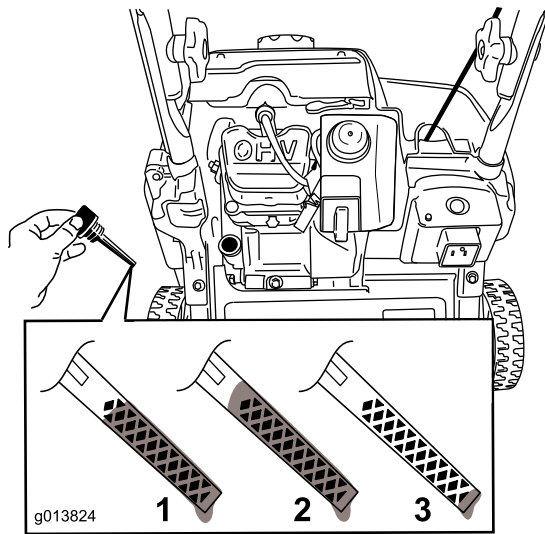

Figure 13
8. To determine the proper oil level on the dipstick, refer to Figure 13.
**Note:** Fill the engine crankcase with oil until the dipstick indicates that the engine oil level is correct as shown in Figure 13. If you overfill the engine with oil, remove the excess oil as directed in \(page \).